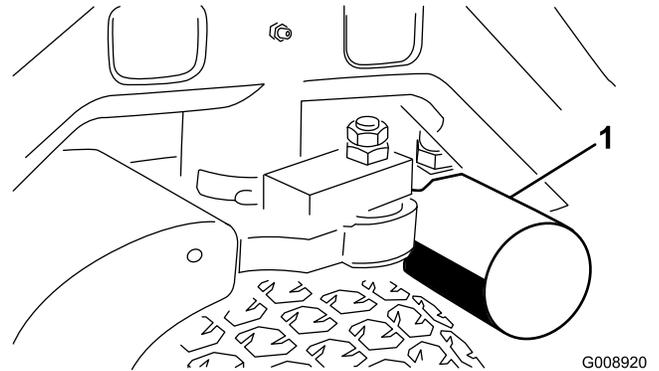
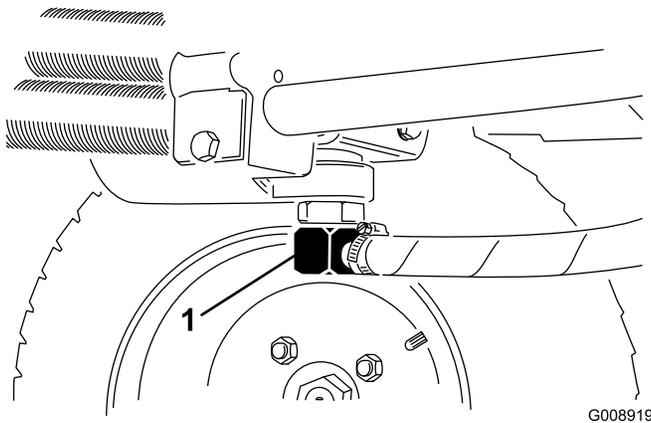

Figure 56
Figure 57
3. Clean around the filter mounting area. Place a drain pan under the filter (Figure 56) and remove the filter.
2. Disconnect the hydraulic line (Figure 57) or remove the hydraulic filter (Figure 56) and let the hydraulic fluid